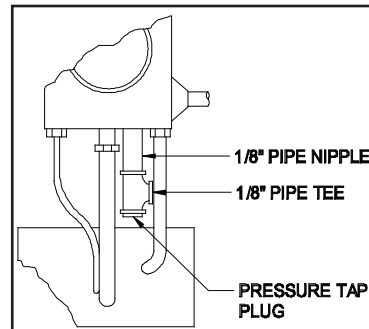

Figure 6
2. Replace the pressure tap plug with the $\frac{1}{8}$ " pipe nipple and pipe tee. Install pressure tap plug at the bottom of the pipe tee. (See Figure 6)